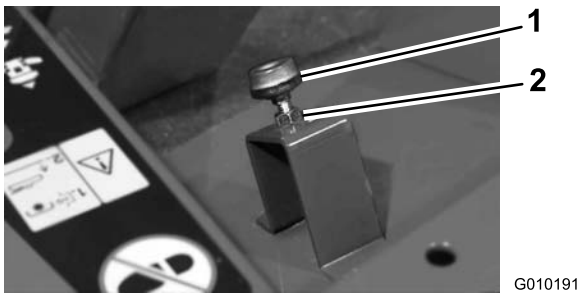

Figure 67
2. Depress the traction pedal until it is at full stroke (Figure 67). The jam nuts may have to be loosened and the stop lowered to attain full stroke.